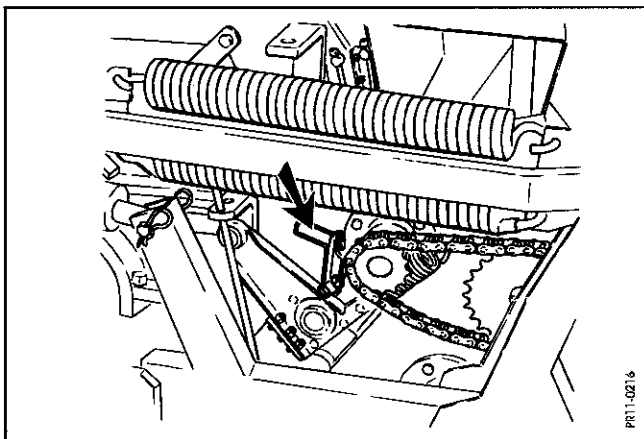

Fig.22
**Fig. 22** shearbar for wear of two edges.